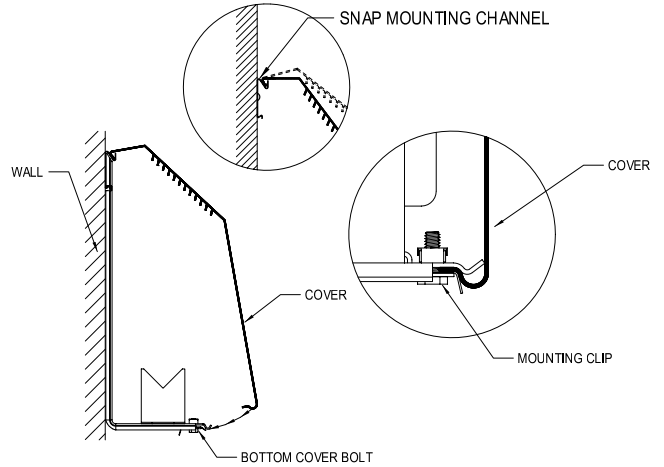

FIGURE W-7
- (7) Install the cover as shown. (FIGURE W-7) Tighten the bottom bolt with the mounting clip to secure the cover in place.